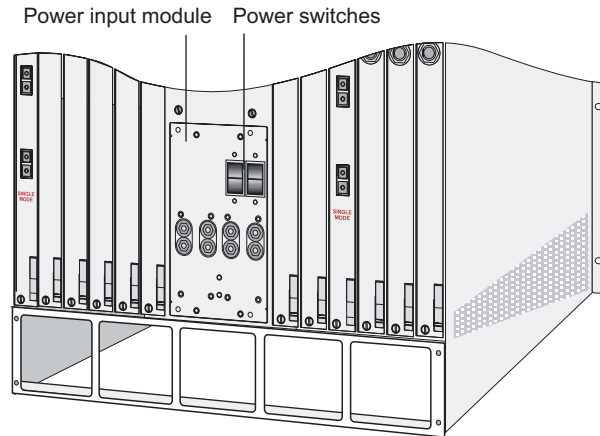

Figure 6-1 ERX-1400 series power switches
- 1 Turn on the power switches located on the power input module in the rear of the system. See Figure 6-1.